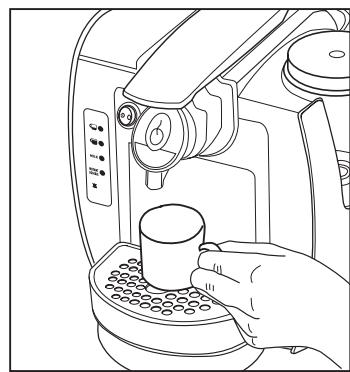

Fig.5
- Ensure that there are no capsules inside; power on the machine via the main switch(on the back) (5)
- Place a large empty cup under the coffee/tea/drinks dispenser. **(Fig. 5)**